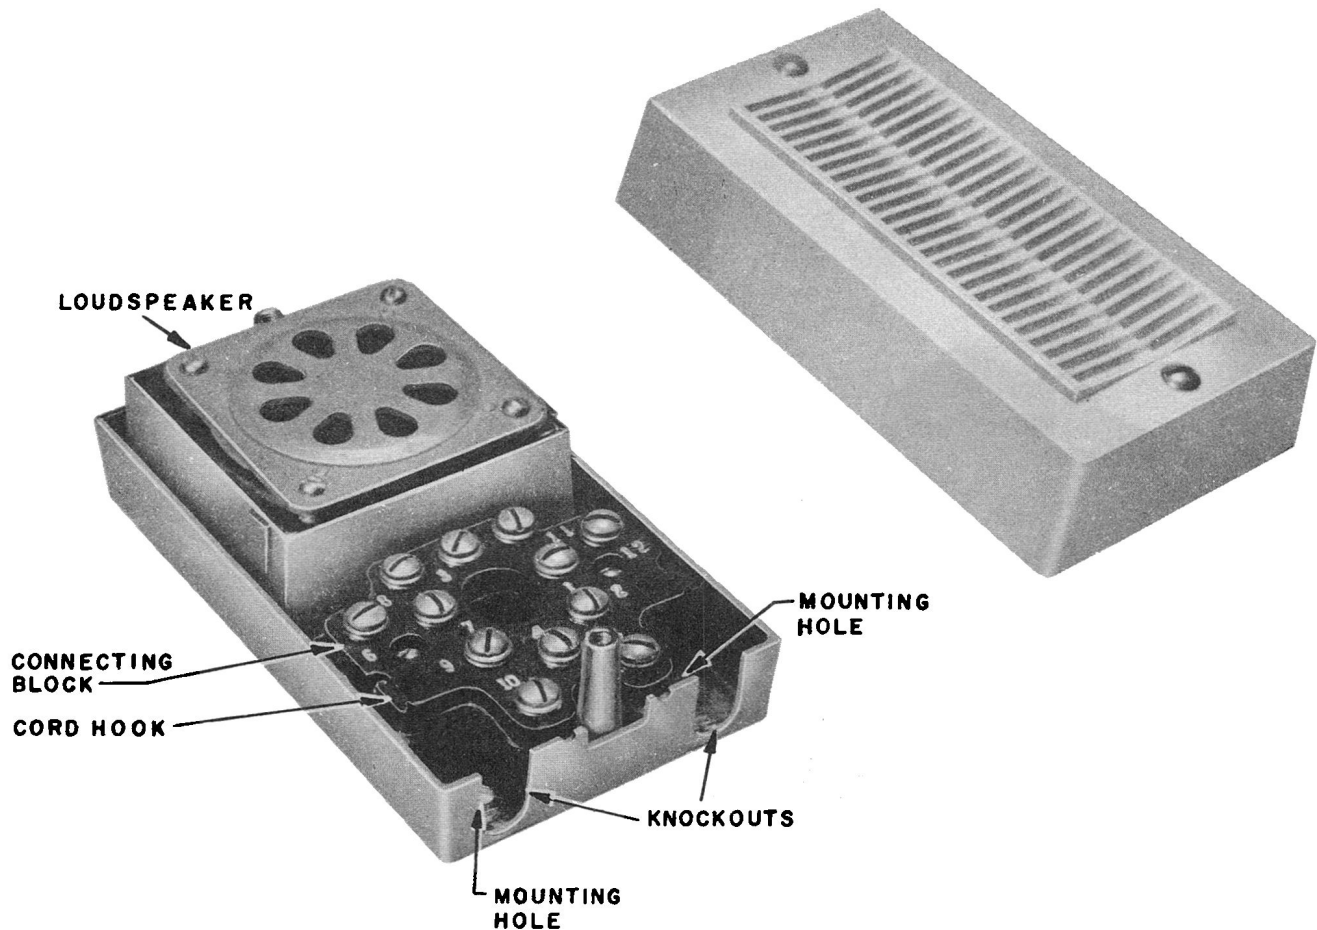

Fig. 6 – 759A Loudspeaker
3.05 The 759A loudspeaker is drilled to mount on a 63A bracket or, by using a 146A adapter assembly, it may be mounted on a standard electrical outlet box. A backboard is not required for mounting. Four mounting holes are provided in the base for securing to the mounting surface. The cord and cable may enter through two holes provided in the base or through the end by removing the knockouts. The 12-terminal connecting block serves as a junction for the telephone set cord and a 6-pair cable from the 51A control unit. A cord hook is provided on the connecting block to anchor the set cord (see Fig. 6). To prevent feedback on the interphone system, install the loudspeaker to the left of a wall-type telephone set. Where conditions permit, loudspeaker may be installed on baseboard as an alternate location.